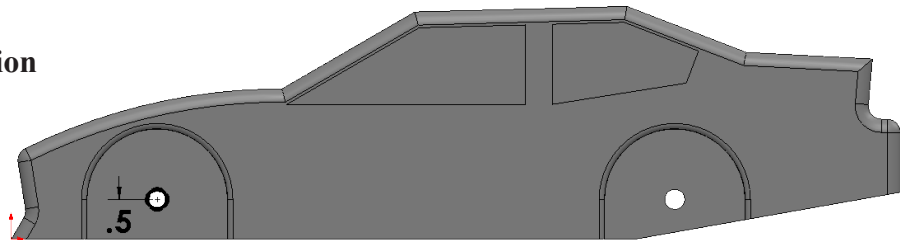

Fig. 78
Step 10. Add **.5** dimension, **Fig. 78**.